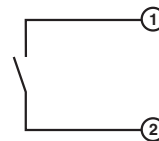
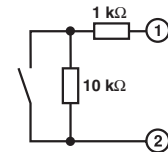

Figure 4 Switch contact with open circuit (not permitted for safety-related applications (SIL 2))
Figure 5 Switch contact with resistance circuit
NOTE: For switch contacts with open circuit (Figure 4) line fault detection (LF) must be disabled or the corresponding resistance circuit must be provided directly at the switch contact (Figure 5, e.g., UKK 5-2R/NAMUR (Order No. 2941662) with D-UKK 3/5 (Order No. 2770024)).
WARNING: Only switch contacts with resistance circuit are permitted at the input for safety-related applications (see Figure 5 on page 7).